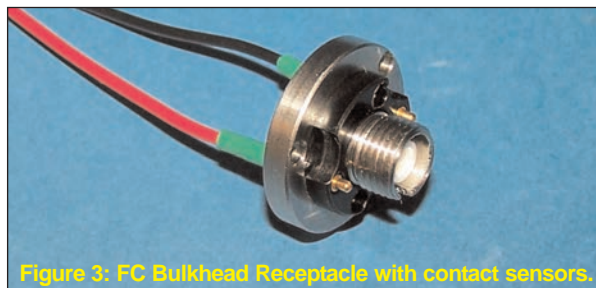

Figure 3: FC Bulkhead Receptacle with contact sensors.
- FC or SMA Bulkhead connectors (for free space to multimode fiber coupling situations) - See Figure 3